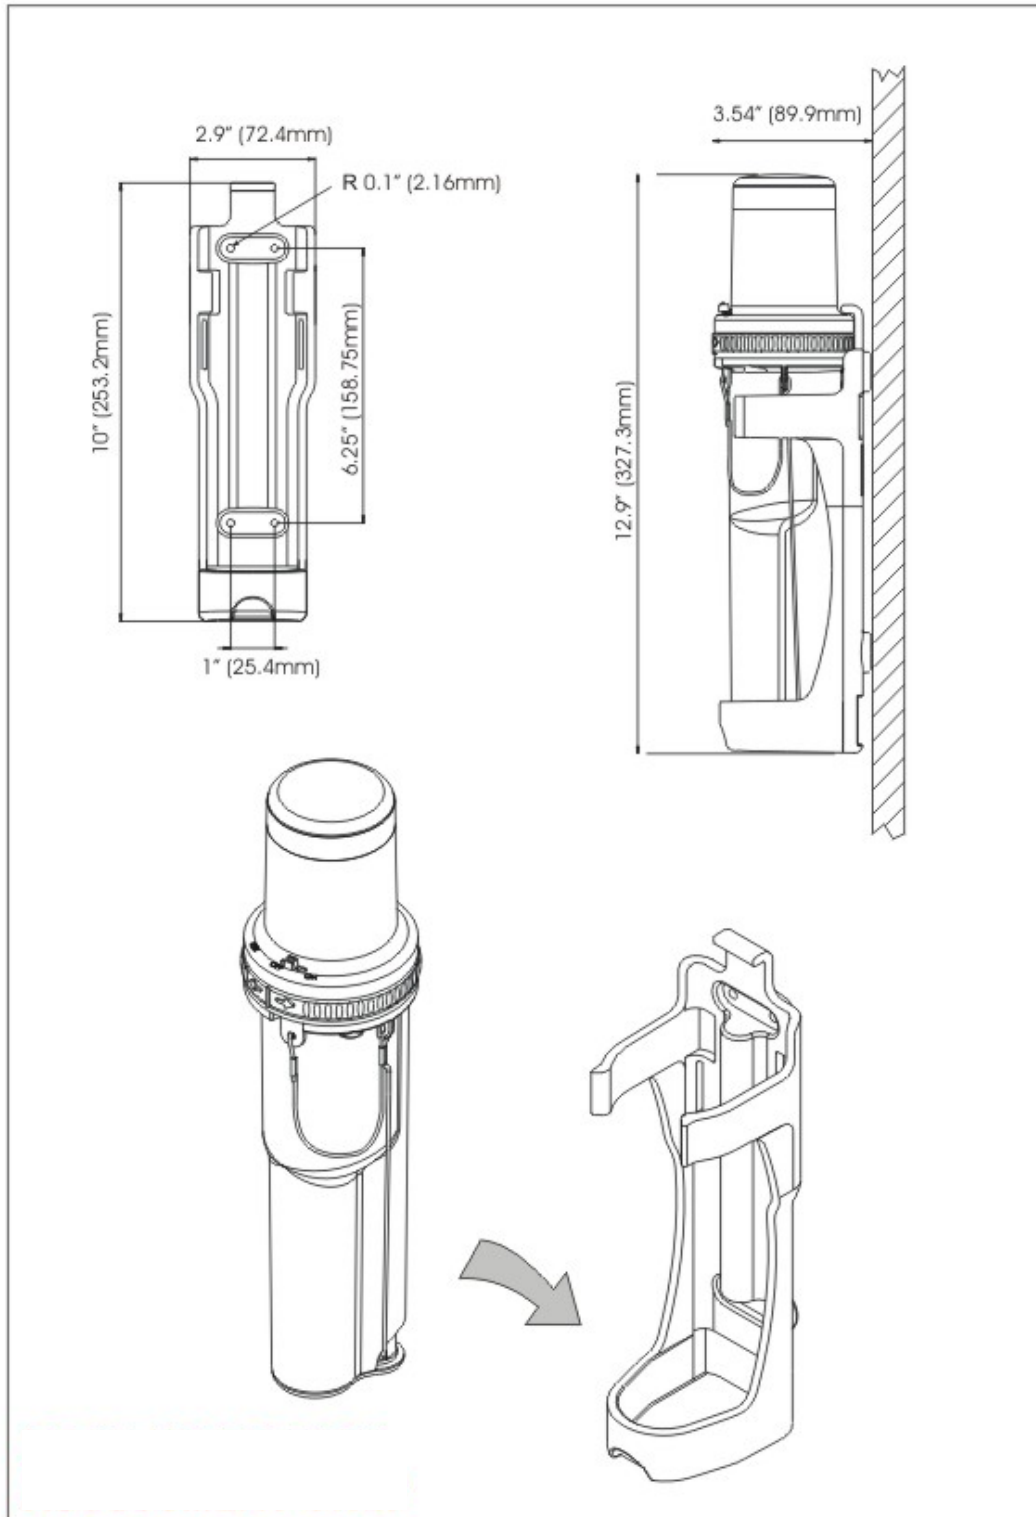

Figure 3
The SART mounting bracket should be bolted to a bulkhead using four (4) suitable M6 (1/4") bolts. The equipment does not include mounting hardware for the bracket, as it will depend on the bulkhead material and its thickness. Bracket mounting holes and SART mounting details are shown in figure 3.